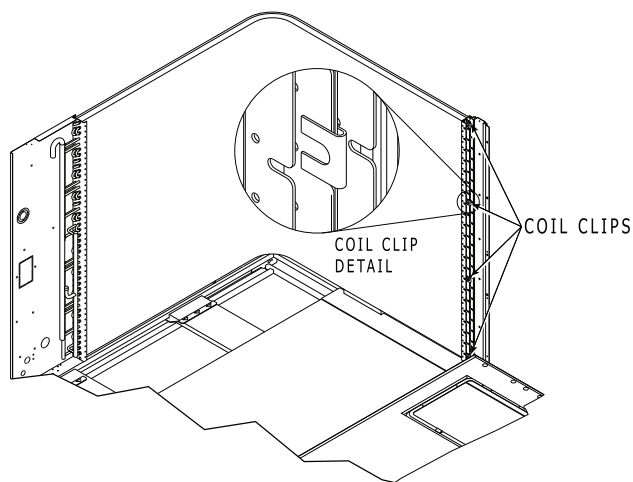

Fig. 21 — Condenser Coil Clips
5. Remove the screws from both sides of the 4 coil retaining clips on the hairpin end of the coil tube sheets. See Fig. 21.